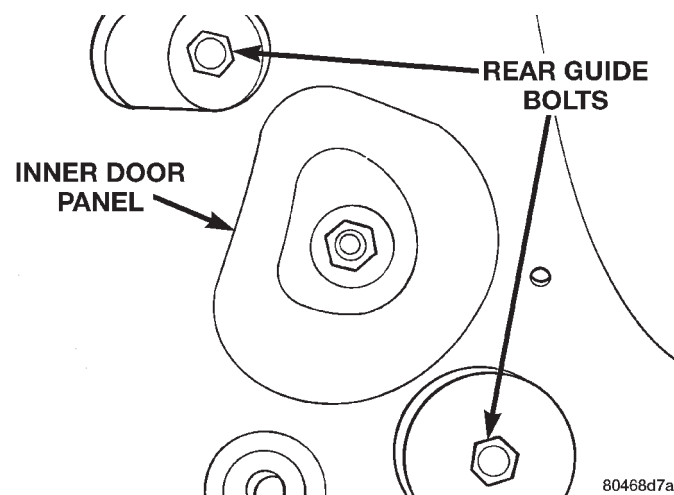
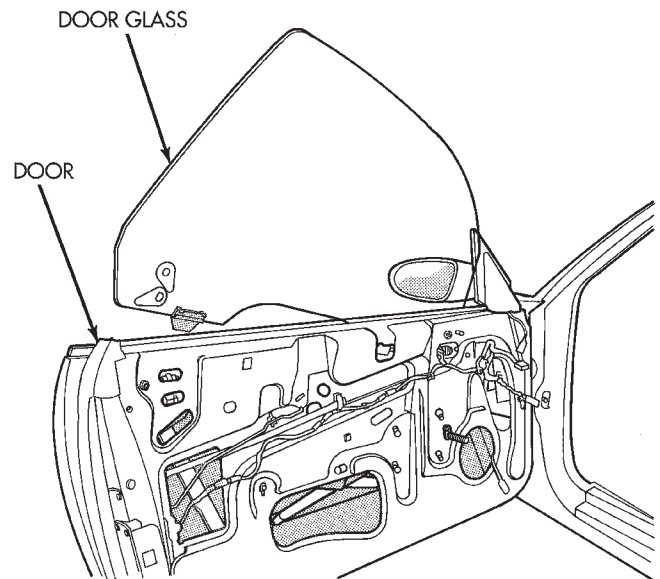

Fig. 15 Rear Guide Bolts
Fig. 16 Door Glass—Typical
- (7) Remove bolts holding rear guide plate to door glass (Fig. 15).
- (8) Separate rear guide plate from door glass.
- (9) Lift door glass upward and out of opening at top of door (Fig. 16).